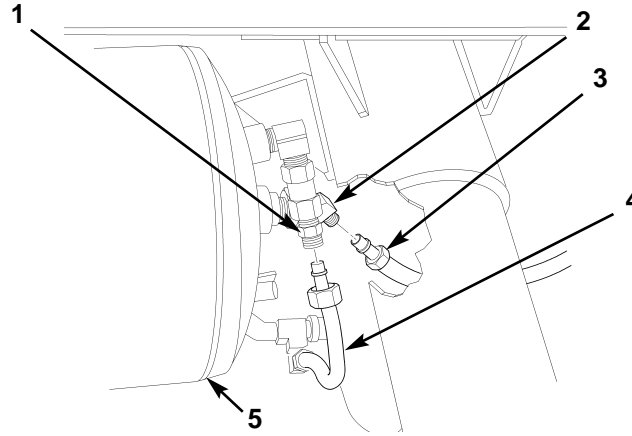

Figure 60. Connecting Tubes to Primary Reservoir.
47. Connect tubes (figure 60, items 3 and 4) to adapter (figure 60, item 1) and elbow (figure 60, item 2) located at front end of primary reservoir (figure 60, item 5).